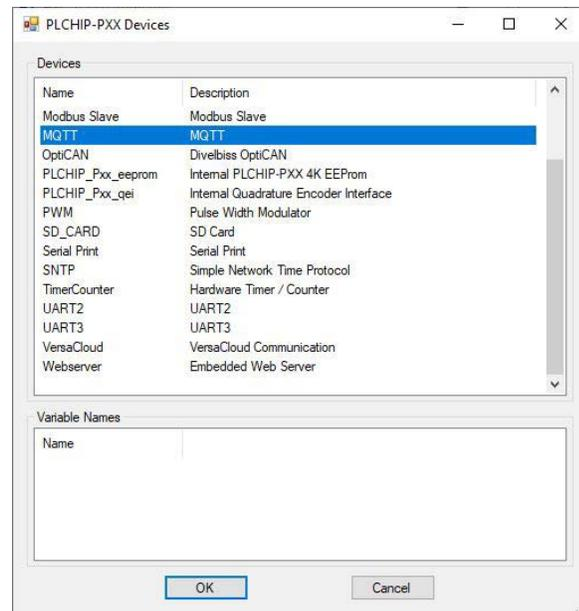

Figure 28-2
- Find and select the **MQTT** option (highlight). Refer to Figure 28-2.